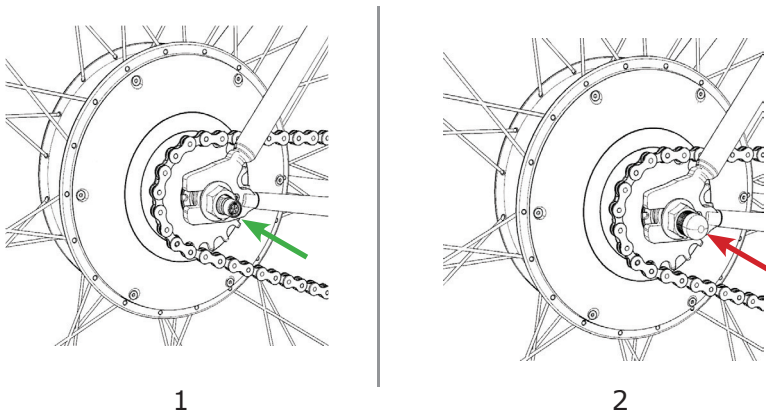

Figure 1: 6-pin charging connector (1) and protection cover (2)
- DO NOT use the bike without the protection covers for the charging connector (see Figure 1). Warranty is void if the bike is being used without protecting the connector.
- IF your BIKE all in one has a 6 pin connector (see Figure 1), please be careful to insert the 6 pin charger plug in the 6-pin connector in the proper way. Otherwise short circuits can occur. Warranty is void if charger is not inserted correctly. Do not short circuit the pinout of the charging connector.